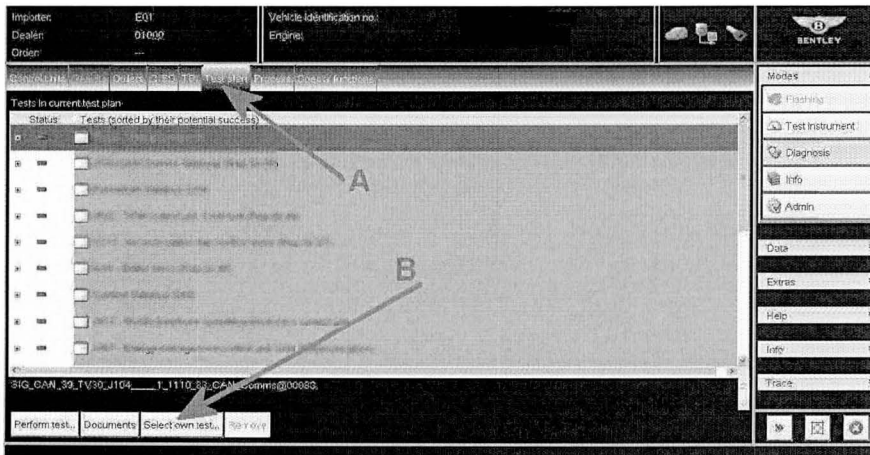
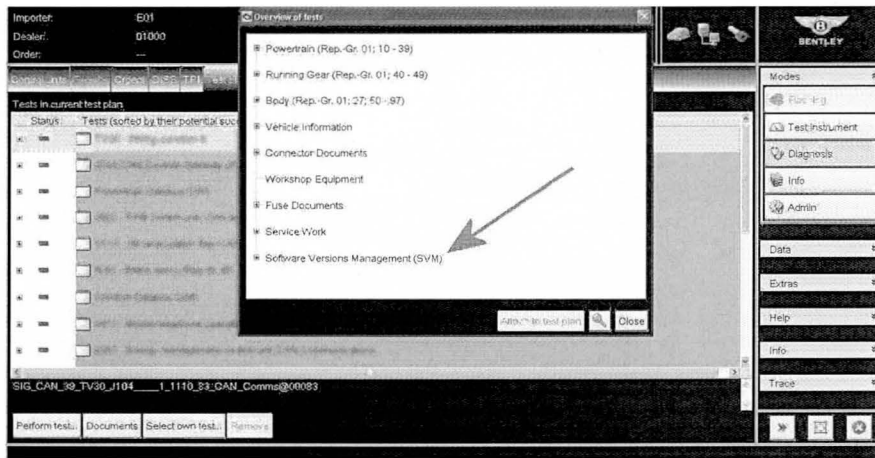
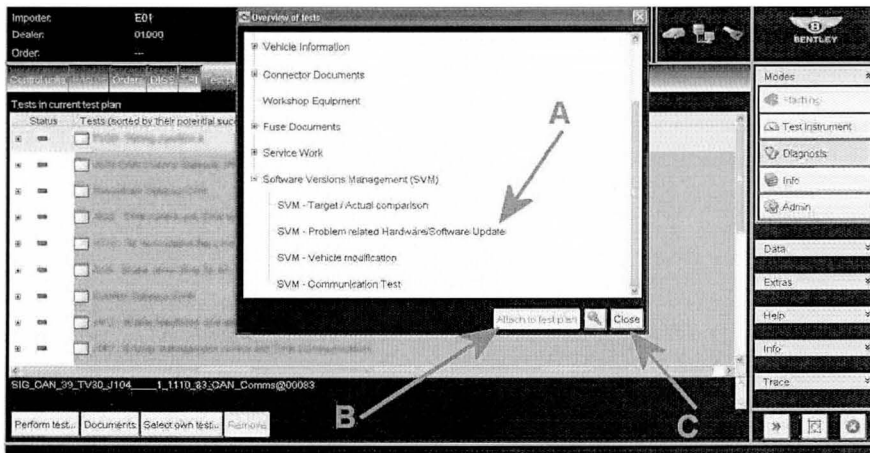

Figure 6
Figure 7
Figure 8
- Once Guided Fault Finding is complete, Select - Test plan as shown in Figure 6 point A - Select own test as shown in Figure 6 point B, (the overview of tests screen will now appear as shown in Figure 7)
- Referring to Figure 7 (Overview of tests screen) select + Software Version Management (SVM) a drop down box will now appear as shown in Figure 8
- Referring to Figure 8 - Select SVM - Problem related Hardware/Software Update (point A)